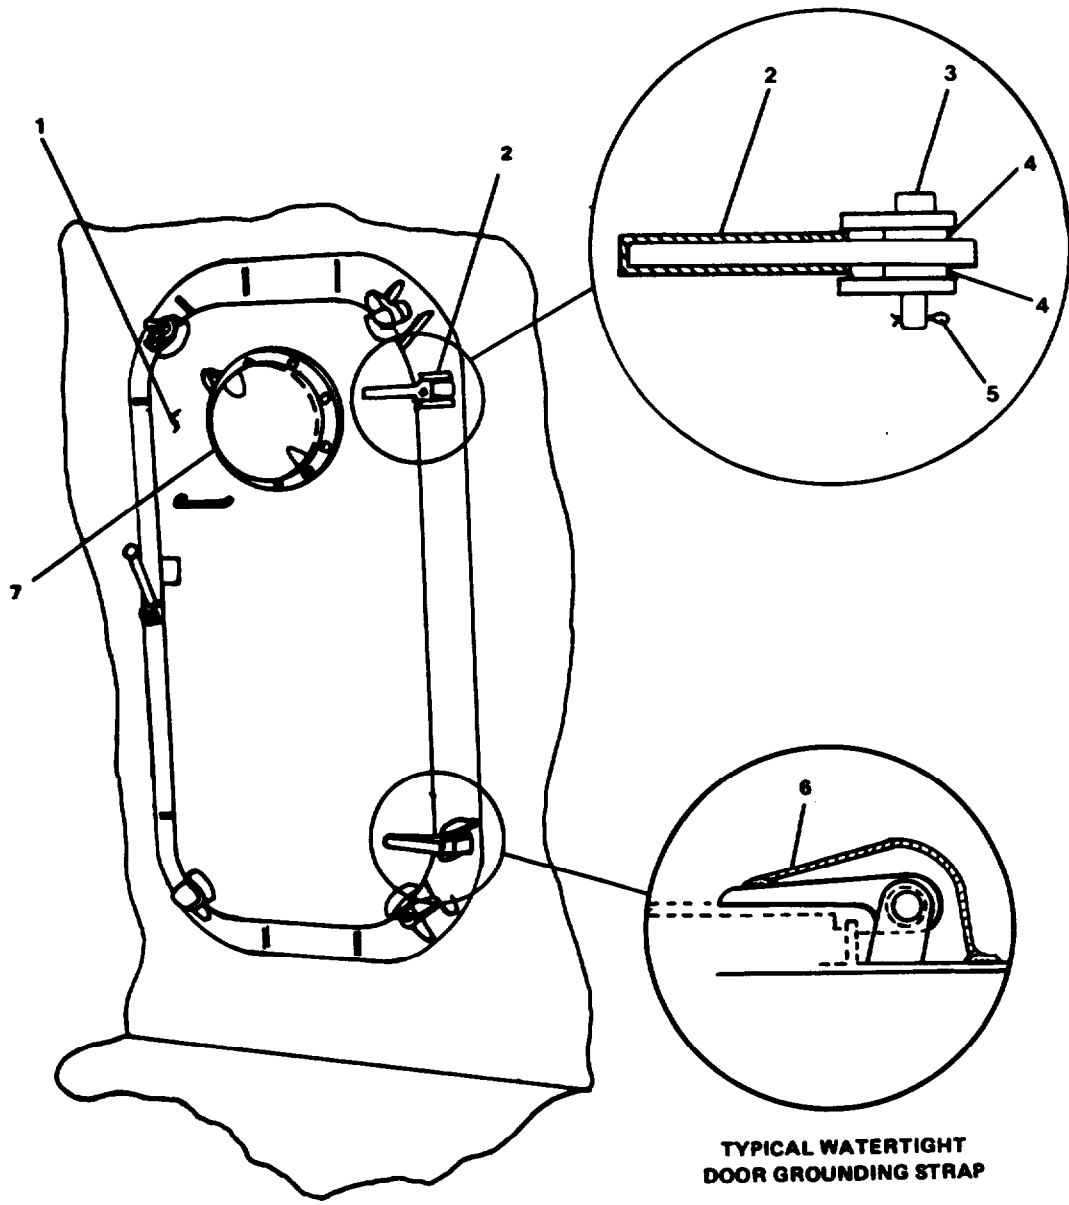

FIGURE 2-168 Replace Waternight Door Four Dogs (30 X 51)
- a. Remove (if installed) grounding straps (6, FIGURE 2-168) from hinge blades (2) and from bulkhead.
- b. Open door (1).
- d. Install gasket (11) and gasket retainer (10) on door.
- e. Install pipe sleeve (8) on door.
- f. Install dog door closer (9) on door.
- g. Install preformed packing (4) and bronze bushings (5) on door.
- h. Install handles (7) on door.
- i. Secure handles using hex nuts (6).
- j. Install fixed light assembly (12) on door.
- a. Place door (1, FIGURE 2-168) in position on frame.
- b. Install flat washers (4) and align holes.
- g. Install (if removed in step a of removal procedure) grounding straps (6, FIGURE 2-168) to hinge blades (2) and to bulkhead.